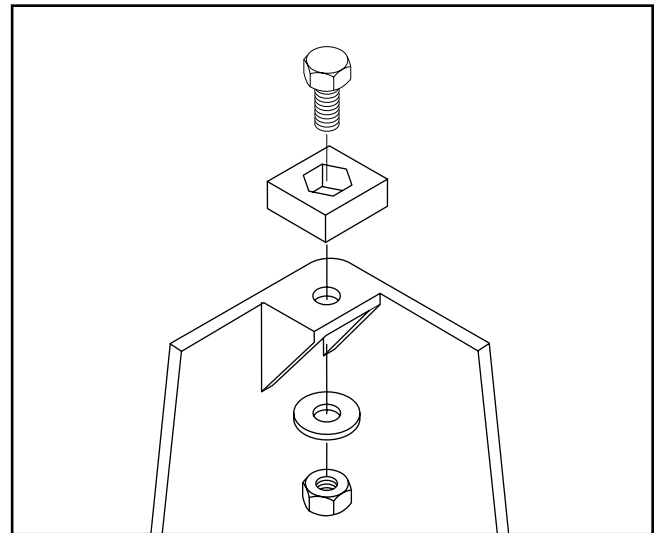

Figure 7. Installing the rubber feet.
1. Fasten the plastic feet to all four legs using the M10-1.5 x 25 hex bolts, 10MM flat washers and M10-1.5 hex nuts as shown in **Figure 7**.